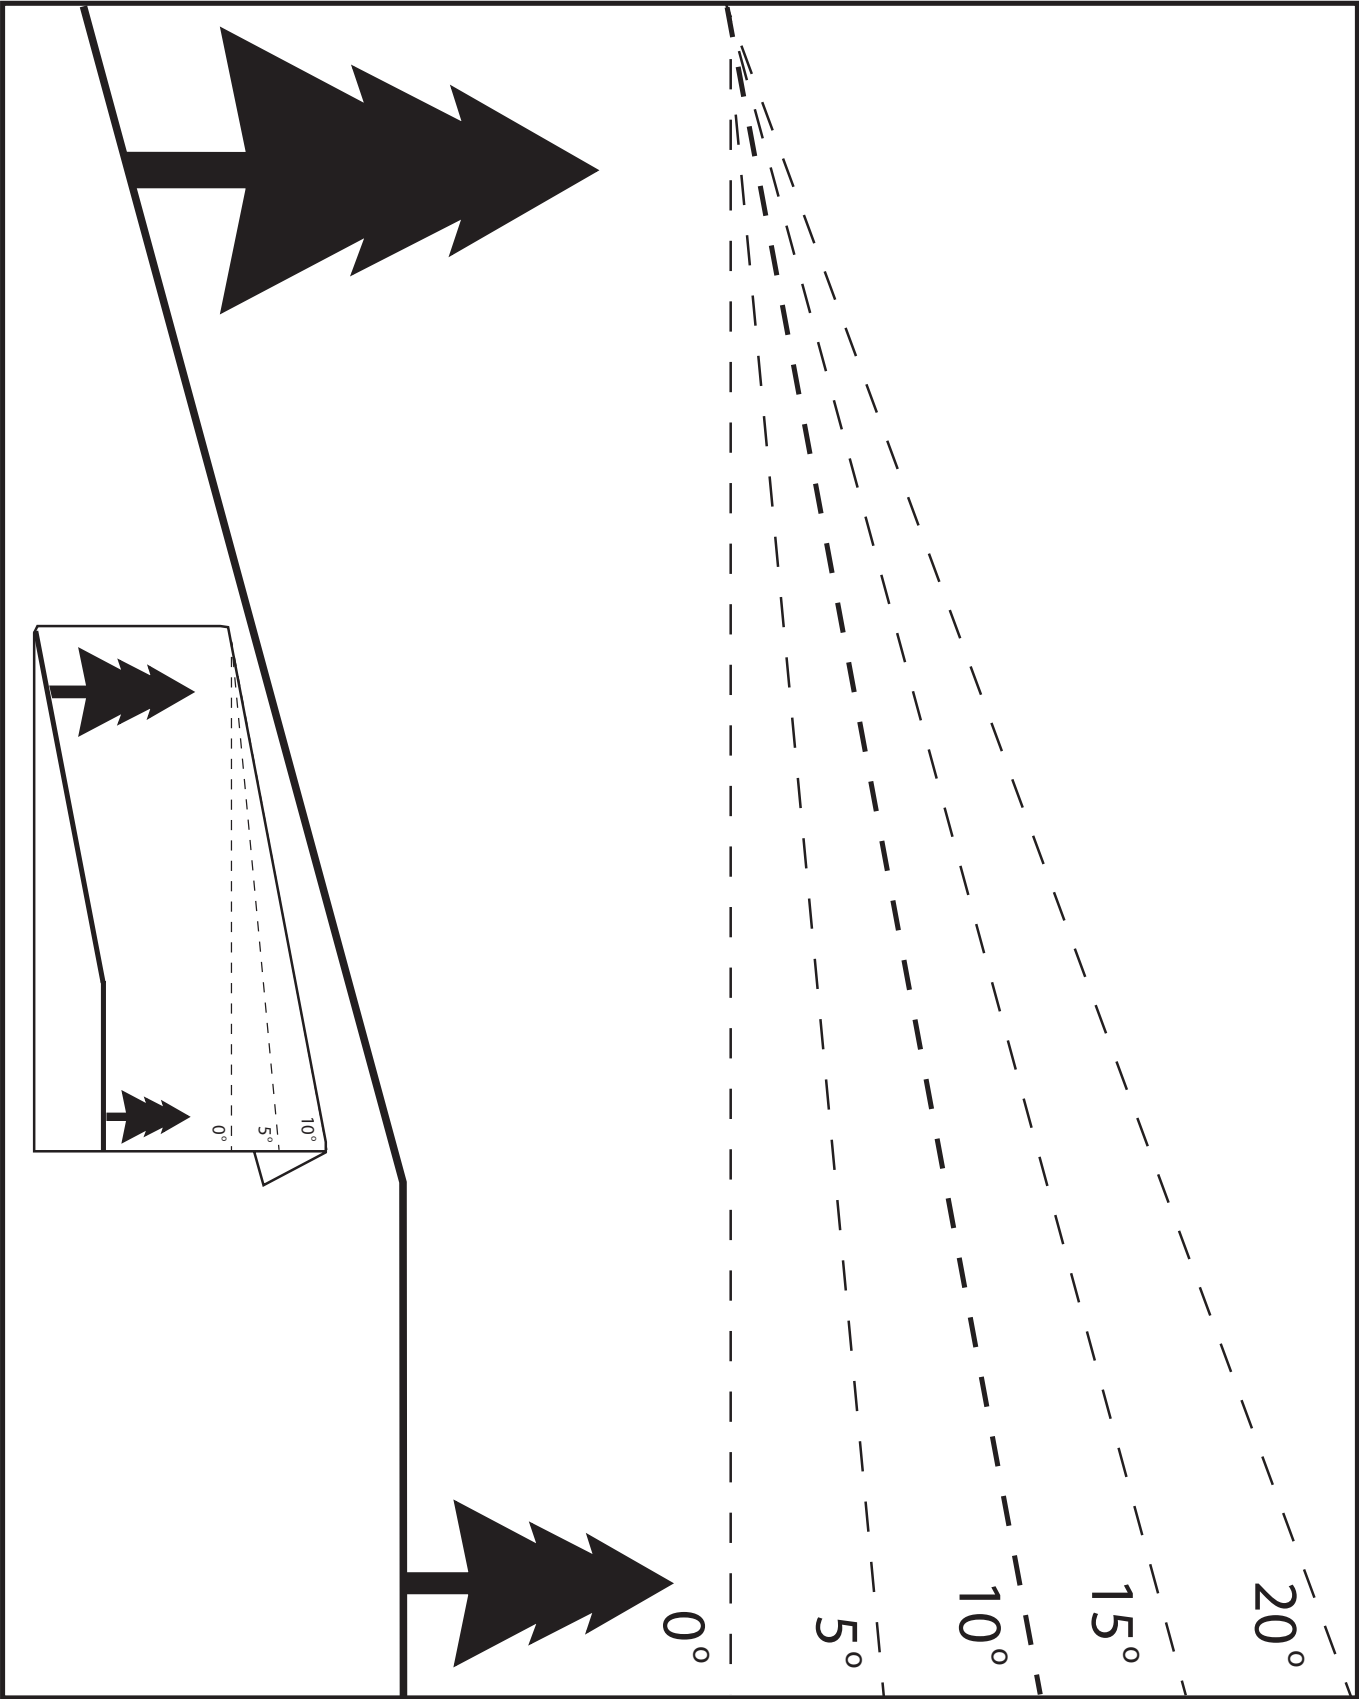

Figure 2-4. Slope Angle Graph
19. Be cautious when loading and unloading onto trailers or trucks. Use only a full width ramp. Ramp angle should be no more than 10 degrees (See Figure 2-4). Back up the ramp and drive down forward. See Figure 4-12.